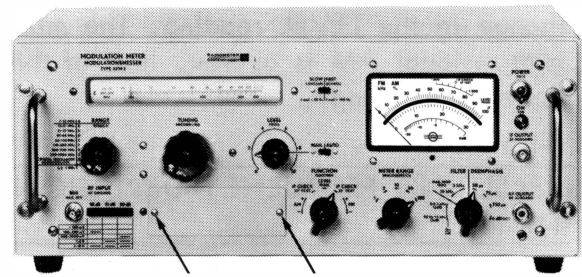

Fig.E5. The arrows show screws and plate to be removed when a plug-in unit is to be used.
- 1) Remove the two screws and the plate covering the receptacle in which the Crystal Oscillator Unit is to be placed (see Fig.E5).